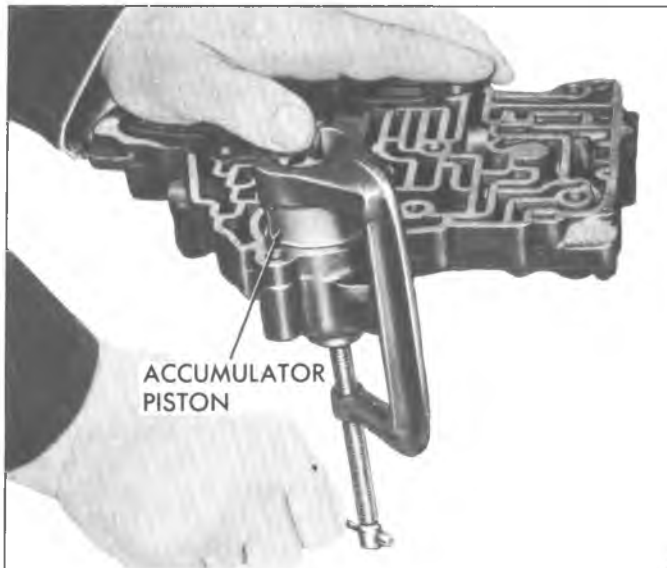

Fig. 7B—Installing Compressor Tool to Front Accumulator Piston
3. Install Special Tools J-22269 and J-24675, on accumulator piston and remove retaining ring (fig. 7B).